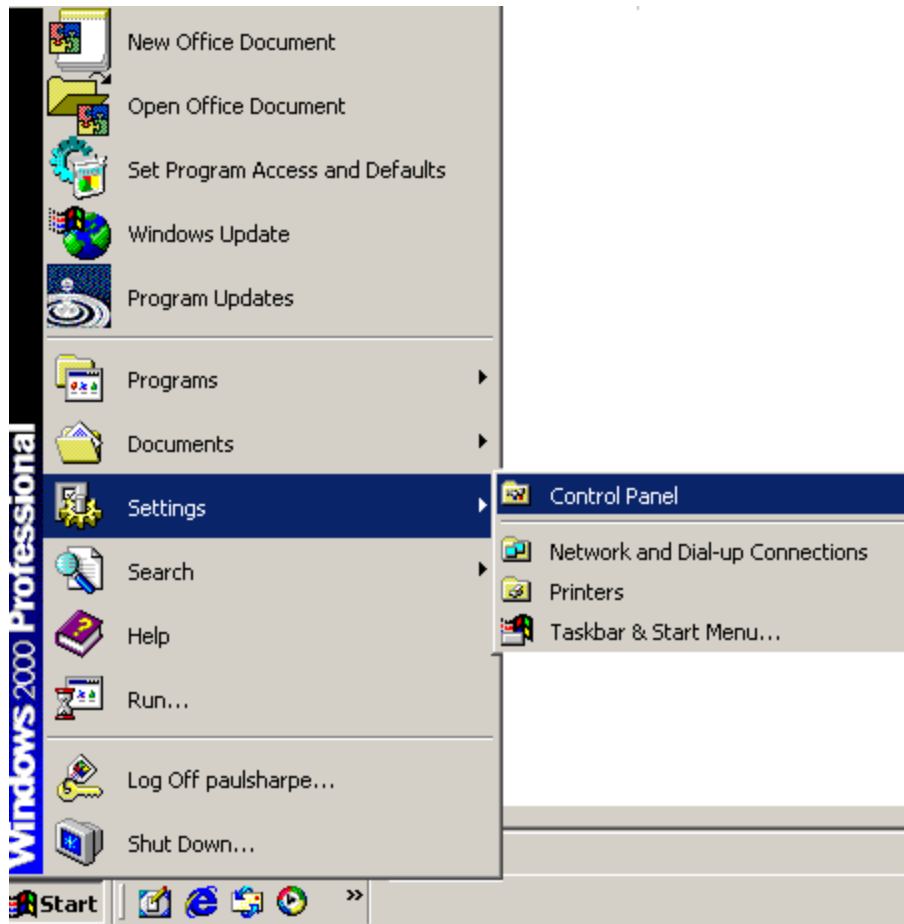

Figure 7-25: Access Windows Control Panel
**Step 1:** Open **Windows Control Panel** (Figure 7-25).